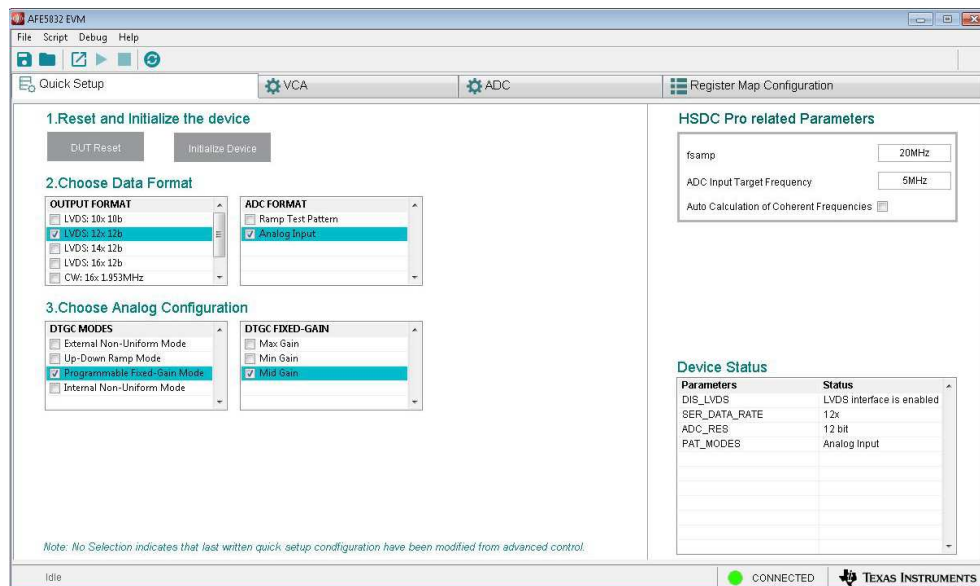

Figure 12. AFE5832 EVM GUI Data Format and Analog Configuration (LVDS)
6. Choose the *Data Formats* and the *Analog Configuration* for each category as shown in Figure 12: